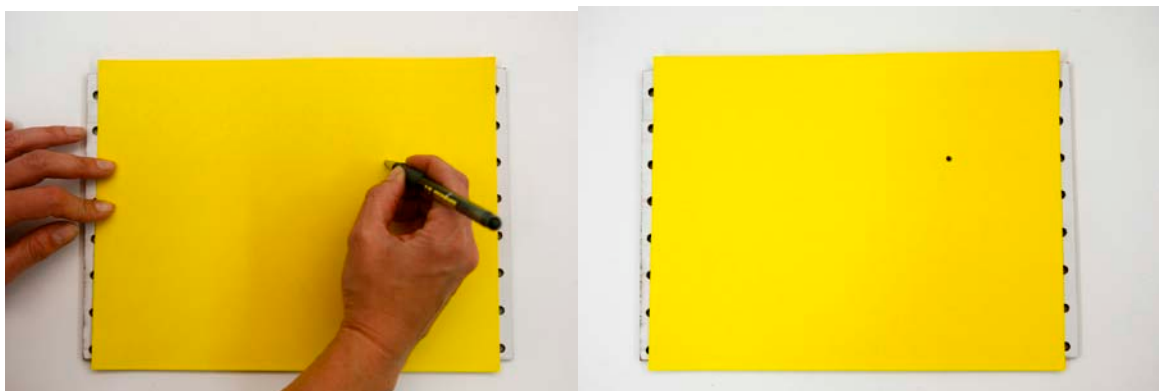

Figure 2: Using pegboard below cardstock, to punch holes in cardstock
2. Push the pencil point through the cardstock to make a small hole. The soft surface or pegboard hole should allow the pencil to go through. See Figure 2